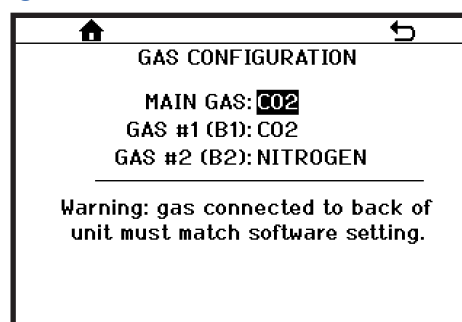
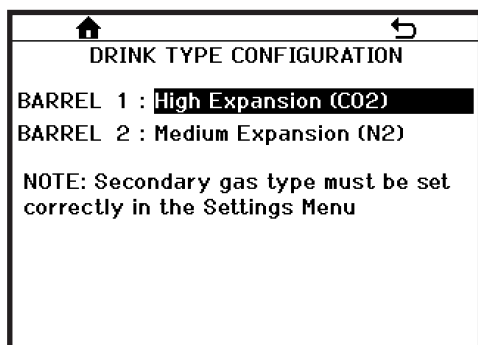

Figure 7.18
Figure 7.19
- DRINK TYPE CONFIGURATION: Used to configure the drink type (medium or high expansion) based on selected gas (Figure 7.19). Settings will only be available on dispensers with multi-gas, multi-flavor functionality.
- For universal gas dispensers, this menu allows the user to set the gas used for MAIN GAS, GAS #1, and GAS #2 (**Figure 7.18**). The options for MAIN GAS are COMP AIR (compressed air), CO2, or NITROGEN. The options for GAS #1 and GAS #2 are CO2 or NITROGEN. Ensure the correct gas is selected in this menu (**Figure 7.19**) to avoid issues with the drink profile.
DRINK TYPE CONFIGURATION (**Figure 7.19**) - Once the gas type has been set under GAS CONFIGURATION, the drink type will need to be configured for universal configurations. Since the type of drink available for any given barrel is dependent on the gas that was selected for the barrel, it is very important to make sure the correct gas is selected. The available drink types will also vary by dispenser configuration as shown in the Universal Configuration Drink Types table.